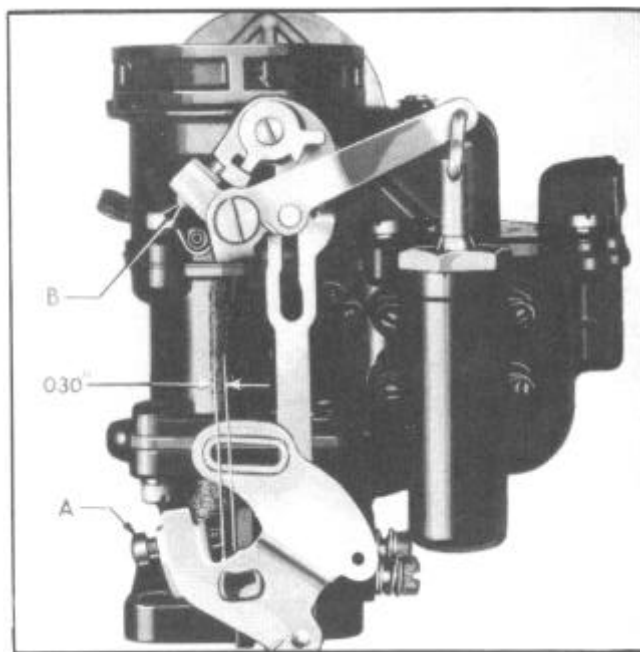

Figure 17--Fast Idle Adjustment
1. Set throttle stop screw (A), Figure 17, for normal idle.
2. With choke valve closed, turn fast idle screw (B) with throttle stop screw held .030" from stop.